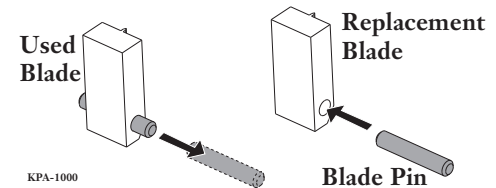

Figure 57 — Insert Blade Pin into Replacement Blade
Step 4: Slide out the Blade Pin. Locate the replacement blade assembly from the packaging and insert the Blade Pin into the new blade (Figure 57).